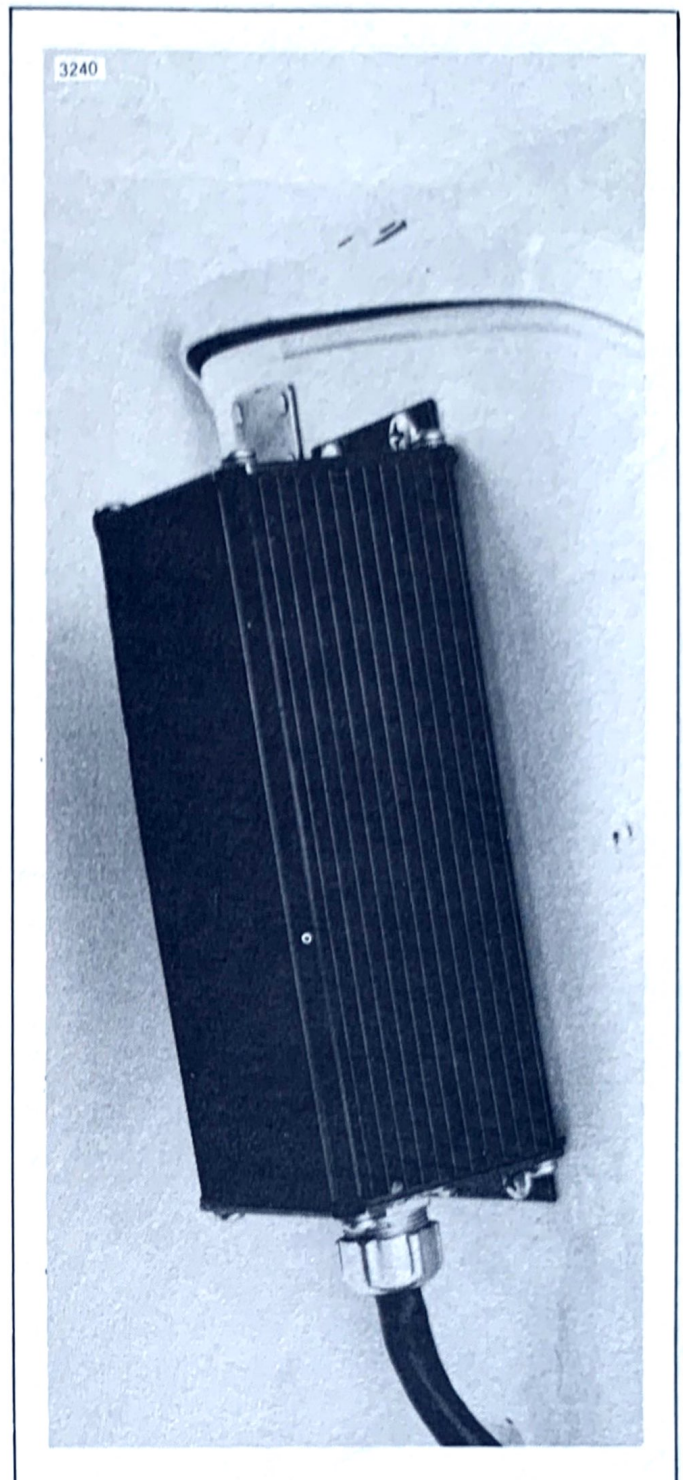

Figure 8-9. Whelen Amplifier Mounting — FLHTP
See Figure 8-9. The amplifier is located on a bracket attached to the left saddlebag guard.
1. See Figure 8-9. Install amplifier as shown.